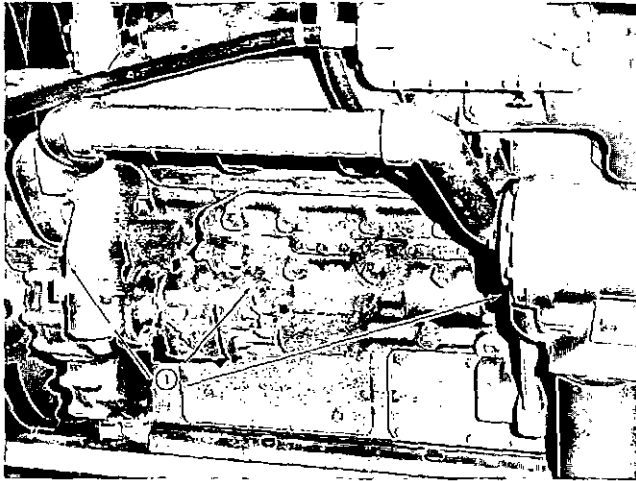

Fig. 2-7. Drain points
2. To completely drain cylinder block and head, open petcock (1, Fig. 2-7) or remove drain plug on water pump, and both banks of cylinder block at the front and rear of engine. If an air compressor, oil cooler, heat exchanger or other "water-cooled" accessory is used, open petcock on unit. Failure to drain any of these units may cause serious damage in freezing weather.